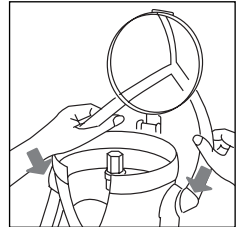

fig.1
1. Insert the two ends of the juicing lever into the guides (fig. 1).